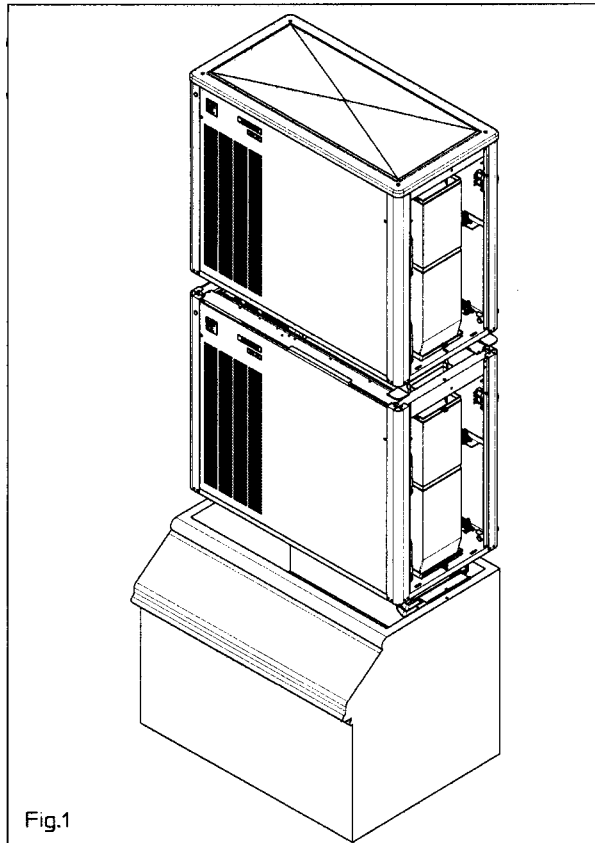

Fig.1
**NOTE.** Every time the unit returns under power, after having been switched off, the water inlet valve, the hot gas valve and the water drain valve get energized for a period of 5 minutes, thus to admit new water to the machine sump reservoir to fill it up and, eventually, to wash-off any dirt that can have deposited in it during the unit off period (Fig.1).